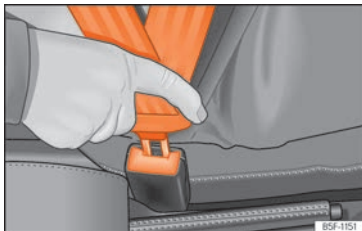

Fig. 10 Insert the latch plate of the seat belt into the buckle.
- Engage the latch plate in the buckle of the corresponding seat » » » Fig. 10.